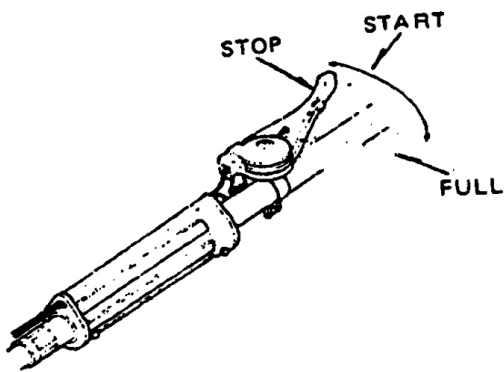

Fig. 11
- 2) Move the throttle lever to start position or about 1/4 full throttle, in case of metal lever. (Fig. 11)